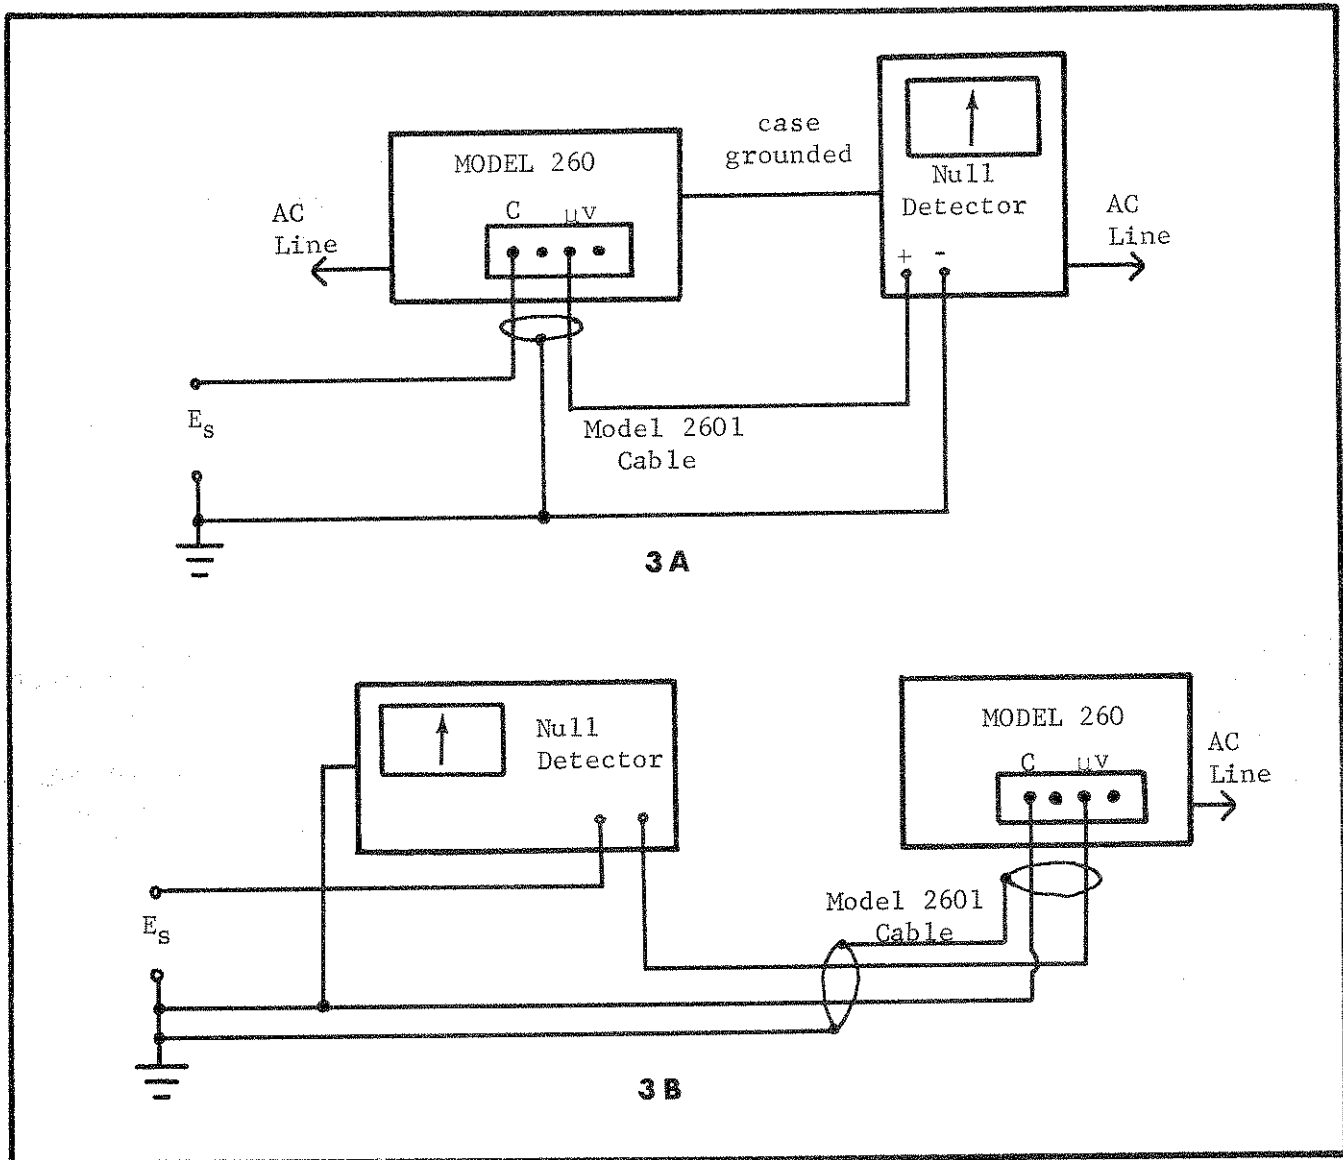

FIGURE 3. Circuits Using Model 260 for Voltage Suppression and Potentiometric Measurements. E_s is the unknown voltage.
1. The Model 260 must be floating; disconnect the shorting link between the LO and COM Binding Posts. Use either circuit shown in Figure 3 to connect the Model 260 and the nanovoltmeter to the unknown source. One circuit is for a line-operated voltmeter and the other for a battery-operated instrument.
1. The Model 260 must be floating. Disconnect the shorting link between the LO and COM Binding Posts. If the shield connection to the Model 260 Output Cable is used, connect it to the chassis ground of the Model 260 and the null detector. Use either circuit shown in Figure 3 to connect the Model 260 and the nanovoltmeter to the unknown source. One circuit is for a line-operated null detector and the other for a battery-operated instrument.